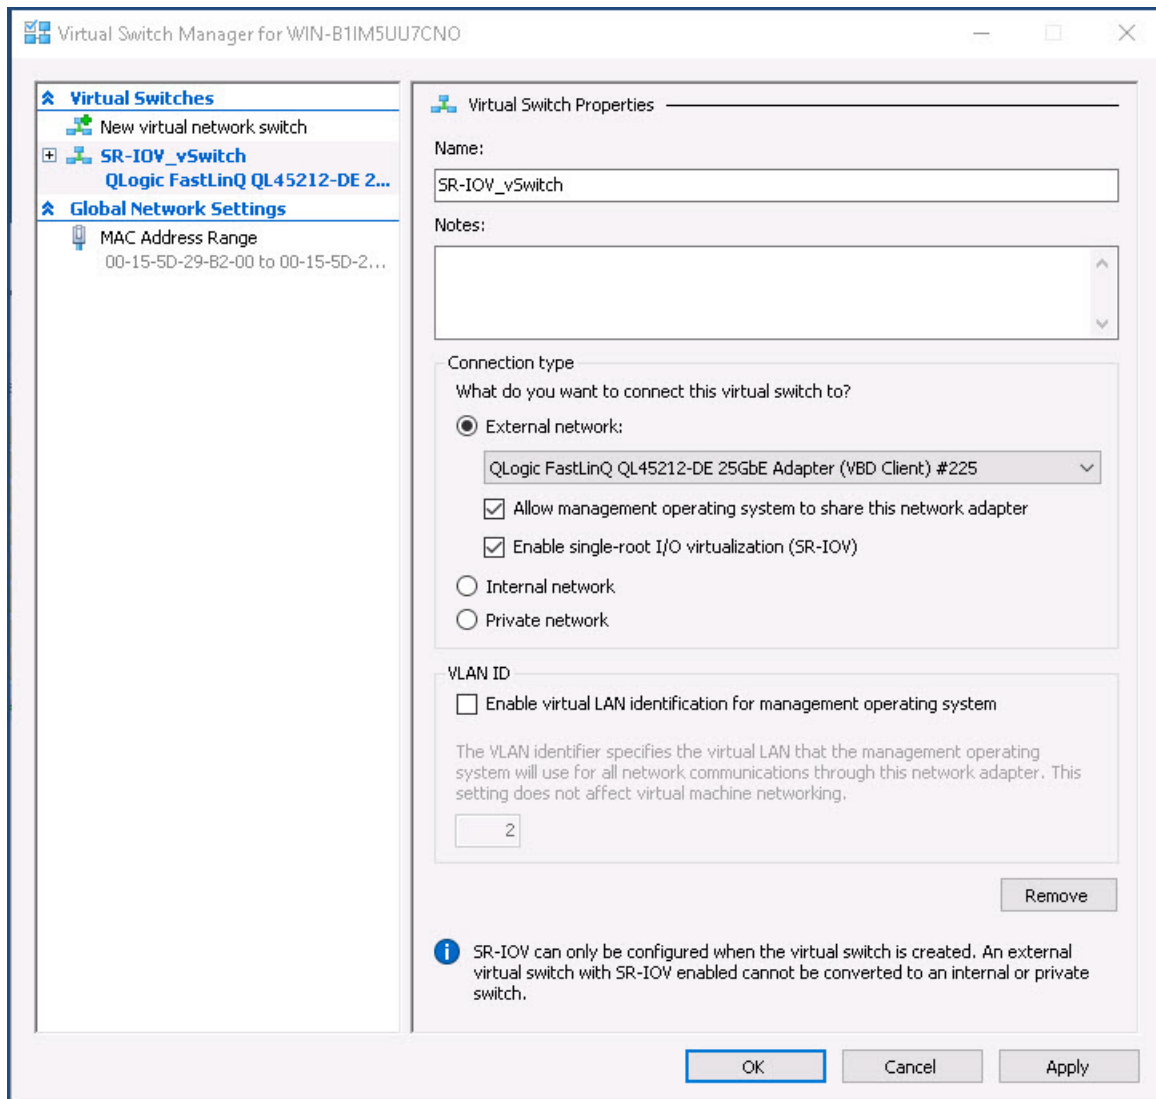

Figure 8-4. Virtual Switch Manager: Enabling SR-IOV
10. To create a Virtual Machine Switch with SR-IOV (Figure 8-4 on page 89):